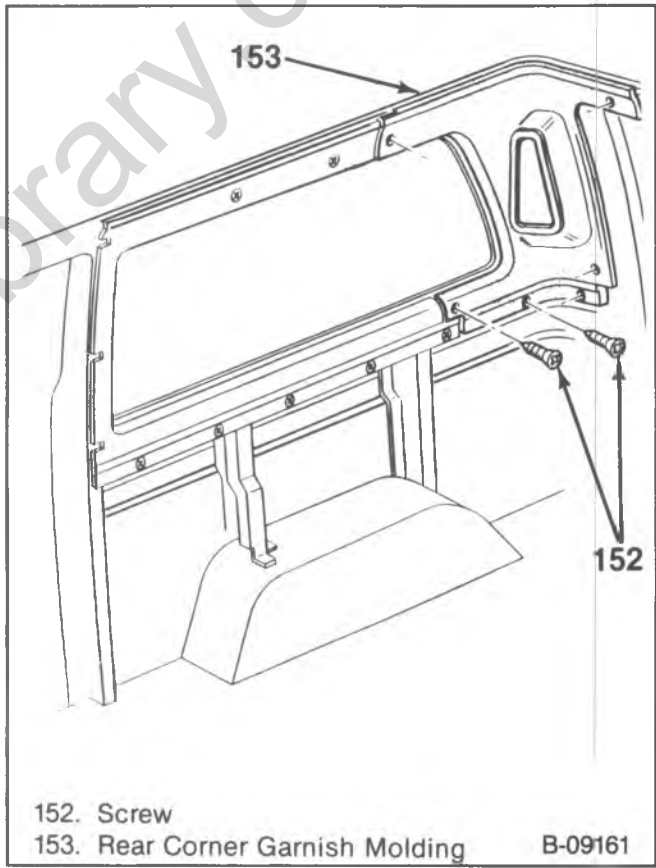

Figure 51—Rear Corner Garnish Molding
10. Body rear corner garnish molding screws and the molding (figure 51).
5. Body rear corner garnish molding and screws (figure 51).